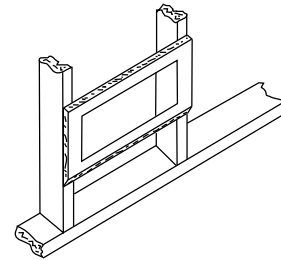

Figure 3
1. Locate wall studs to be sure that entire cut-out can be made between studs. At least one side of the cut-out must be flush with side of the stud. Bottom of cut-out must be 4" above finished floor minimum. Make a cut-out in wall 14-1/2" wide X 6-3/4" high (368 mm X 171 mm) (see Figure 3).